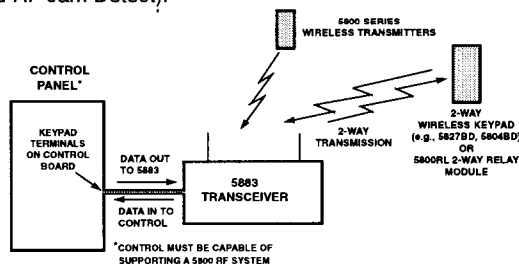
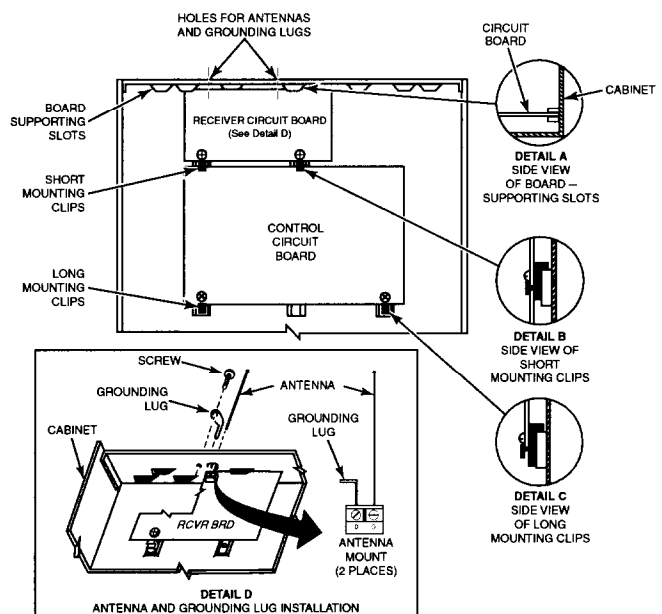

Figure 1. Block Diagram
Figure 2. Installing the 5883 Board in the Control's Cabinet
The 5883 RF Transceiver Module contains an RF receiver and a transmitter. It is intended for use with ADEMCO's 5800 series RF transmitters, including bi-directional units (e.g. 5827BD, 5804BD), and the 5800RL Wireless Relay Module (see Fig. 1).
Mounting inside the control's cabinet (refer to Fig. 2):
3. Hang two *short* (black) mounting clips (provided) on the raised cabinet tabs in the cabinet, as shown in Detail B of Figure 2.
2. Insert the top of the board into the supporting slots at the top of the cabinet (see Figure 1 and Detail A, Figure 2).